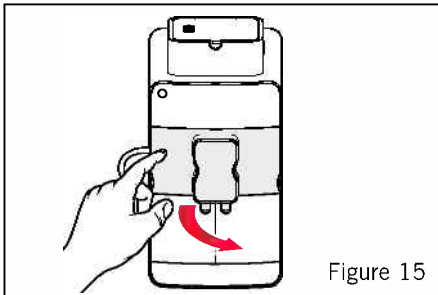

Figure 15
- Press the left side of the door with the dispensing unit to open it. See Figure 15.